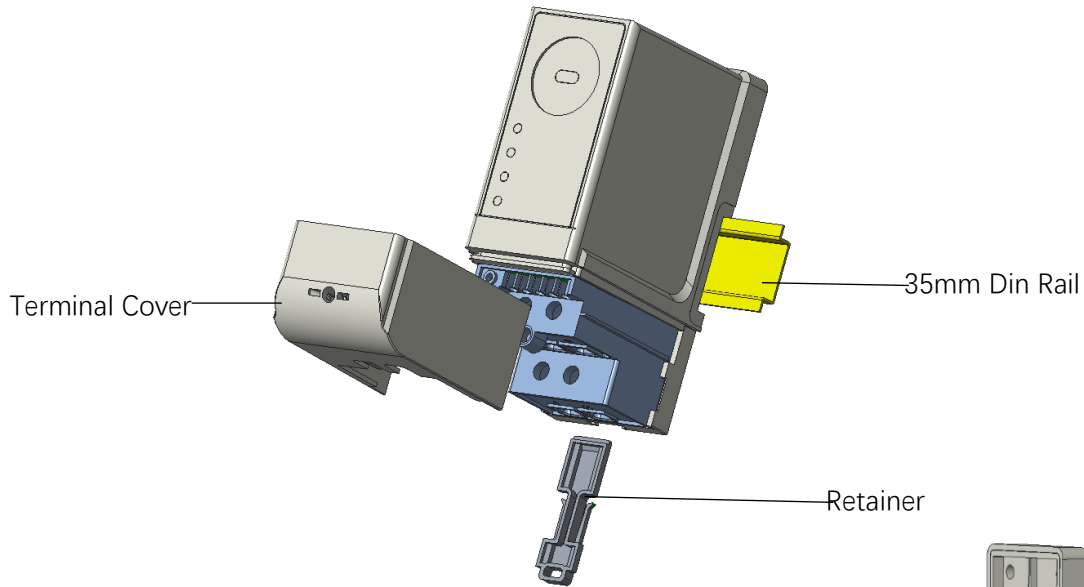

Figure 1
1. Remove the terminal cover and retainer by sliding it outwards.(Figure 1)